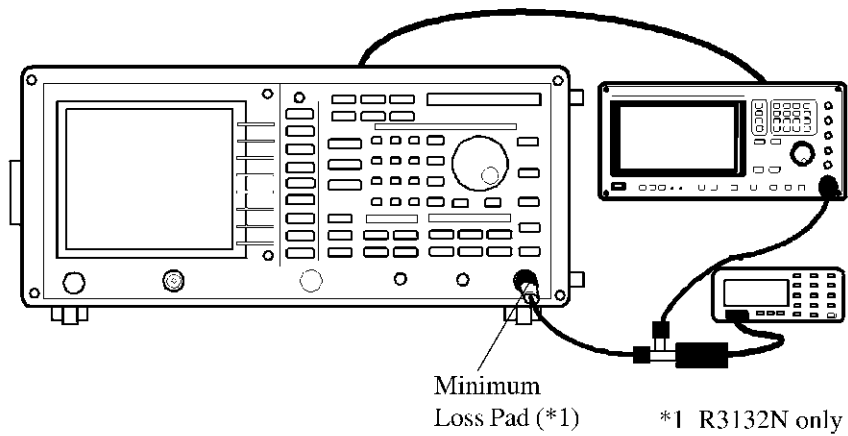

Figure 5-13 Setup of Image, Multiple and Out-of-Band Responses Test
4. Connect the power meter and signal generator as shown Figure 5-13.